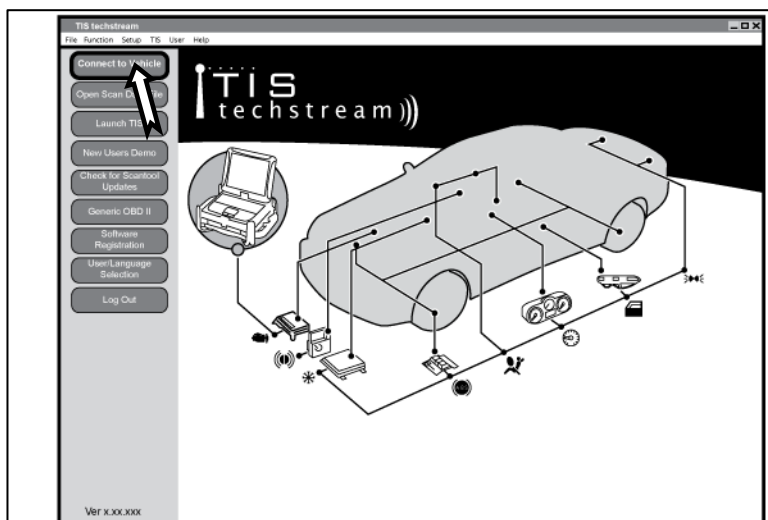

Fig. 8-4
- (f) Click “Connect to Vehicle.”(Fig. 8-4)